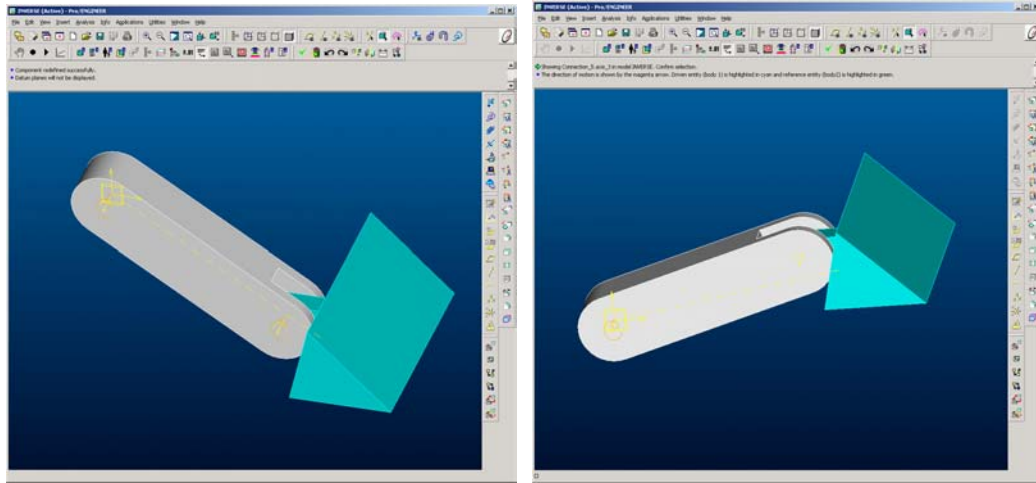

Figure 2
2. The first component will be a skeleton model. The skeleton model will simply be a Pro/Engineer part which has three datum planes, a coordinate system and an axis. Assemble the boom arm to the skeleton using a pin joint. Then assemble the bucket to the boom arm with the appropriate pin joint. In addition, create a planar joint between the skeleton and the bucket. Place a zero position driver on the rotational axis on the planar joint as shown in Figure 2 to keep the bucket level as the arm is raised. The goal is to determine the inverse dynamics torque on the pin joint connecting the bucket to the arm, yet the zero position driver is defined for the skeleton-bucket joint. Also create a servo driver for the arm to move 50 degrees. Create a snapshot as well for the initial position of the assembly.
Define an analysis which includes both of the servo motors that have already been defined. Run the analysis. Figure 2 shows the loader in its raised position, the bucket level.